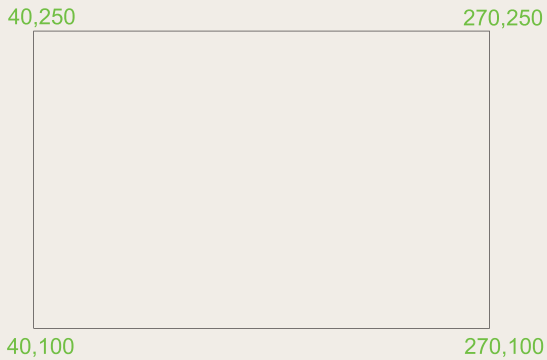

Fig. 2.28 Exercise 1
1. Using the **Line** tool construct the rectangle shown in Fig. 2.28.